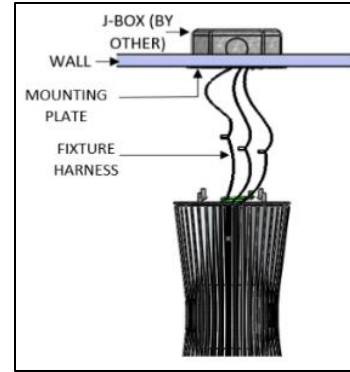

FIG. 13 – WIRING TO FIXTURE
5. Plug wire connectors to their corresponding connector between fixture (fixture harness) and building supply (8" wire whip) as shown below in FIG13.